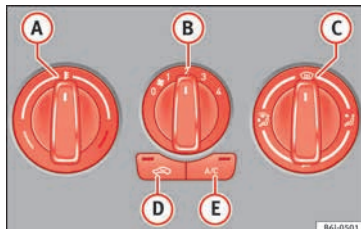

Fig. 166 Air conditioning controls on the dash panel.
- Using the rotary switches **(A)**, **(B)** and **(C)** **»» Fig. 166** you can adjust temperature, blower speed and air distribution.
- Turn off the cooling system using the **» Fig. 166**  button (the button light turns off).
If the rotary switch  **» Fig. 166** is in the thaw position, the recirculation flap will always be open (button light off).
- Press button  **» Fig. 166**, the switch's lamp will light up, indicating that air recirculation inside the vehicle has been activated.